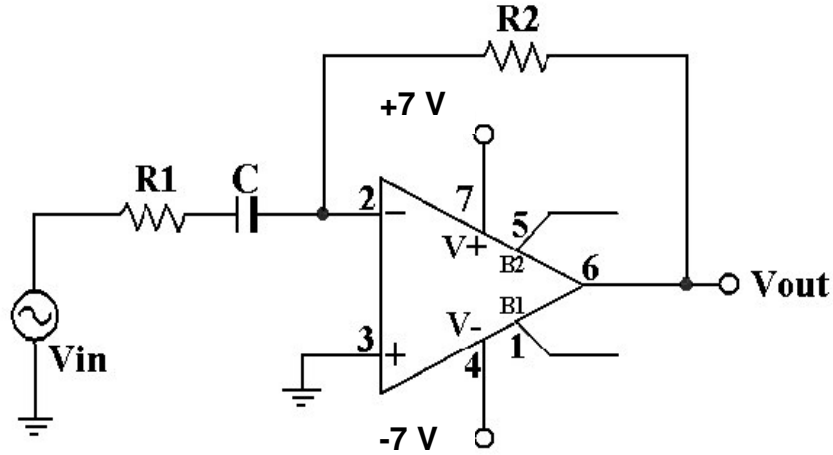

Fig 4. First order high pass filter (pseudo-differentiator) circuit
The output is proportional to the derivative (s term) thus the output voltage increases monotonically as the frequency increases. Fig. 4 shows the circuit configuration for a commonly used pseudo-differentiator or high pass filter.
4. For the first order high-pass filter shown in Fig. 4 with power supplies $\pm 7V$, and assuming the Opamp is ideal, derive the time-domain equation of the output in terms of the input. Show that the circuit performs the function of a differentiator.